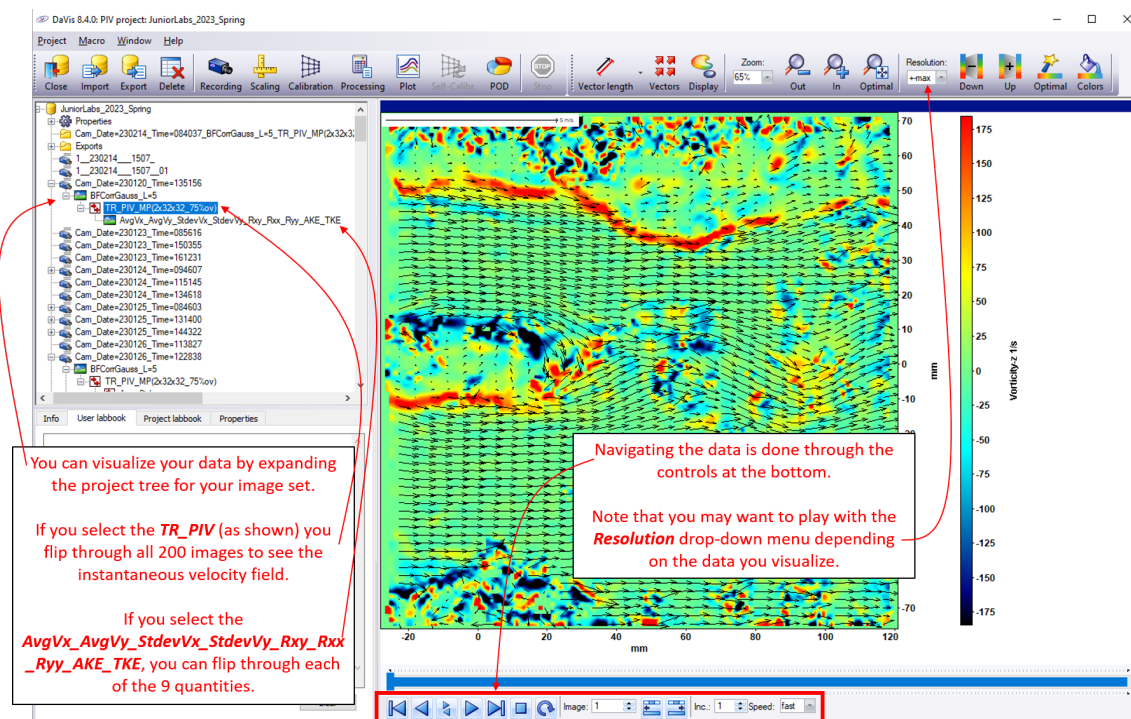

Figure 17: Post Processing, time-averaged vorticity magnitude.
- If you now click on “TR_PIV_MP(3x32x32.75%ov)”, you will be able to see the instantaneous velocity field results (through each of the 200 images). Again, display controls are at the top, and playing/pausing the sequence of images is done with the bottom control bar seen in **Figure 17**.
- Click on the Play icon. You may need to bring the slider back to the left to play the images, see Figure 17.
- Click on the blue slider at the bottom to switch between average data and standard deviation, see Figure 17